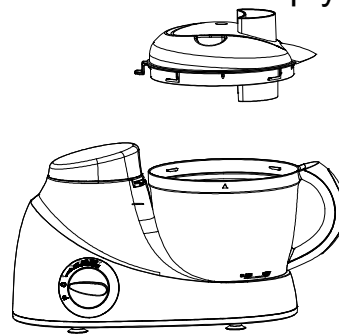

Fig.4
- Place the lid on the bowl and turn it clockwise until it clicks into position. The spur on the lid sticks out of the base of the lid-locking slot (see fig.4)